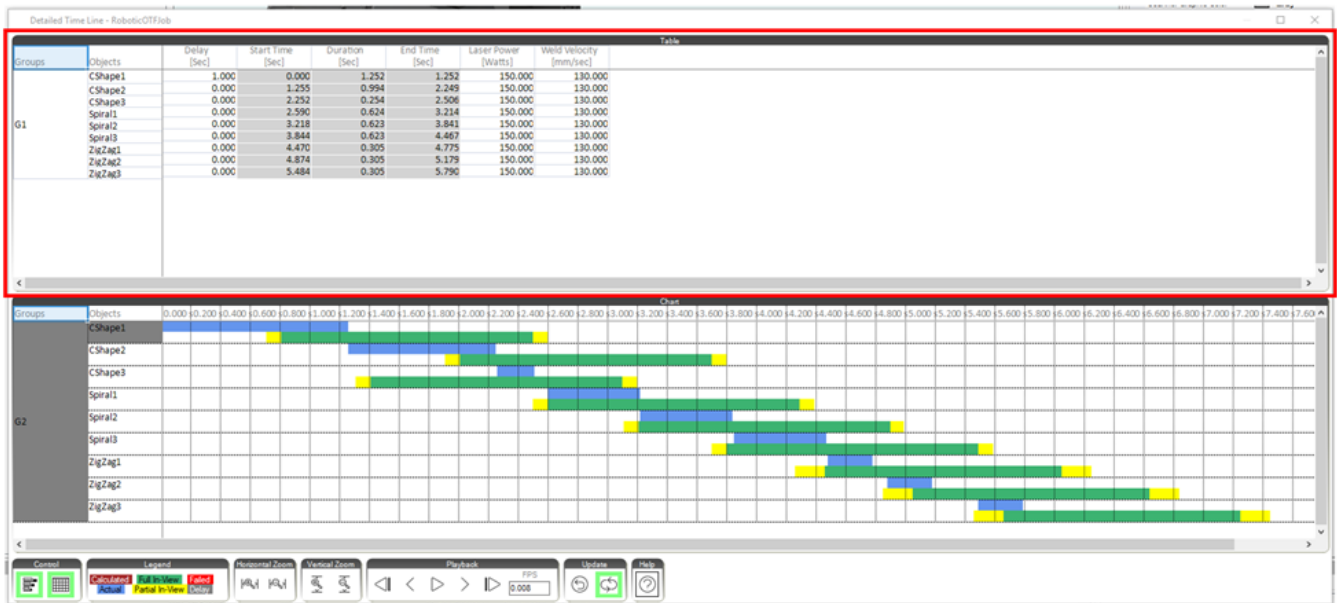

Figure 265: Object Parameter Table
- **Object Parameter Table** - This outlines all the Process Objects within the job. Here users can find and modify primary parameters such as Laser Power and Weld Velocity. Users can also view Start, End, and Duration times. Additionally, users can easily modify delay timings for prior to object processing. See Figure 265 (below).